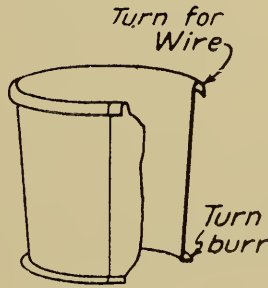

FIG 3.
14. Bend laps on prick marks 5 and 6 and place inside. (Fig. 3).
15. Rivet corners together. (Fig. 3).
6. Turn burr on bottom edge. (Fig. 3).
7. Turn upper edge for wire. (Fig. 3).